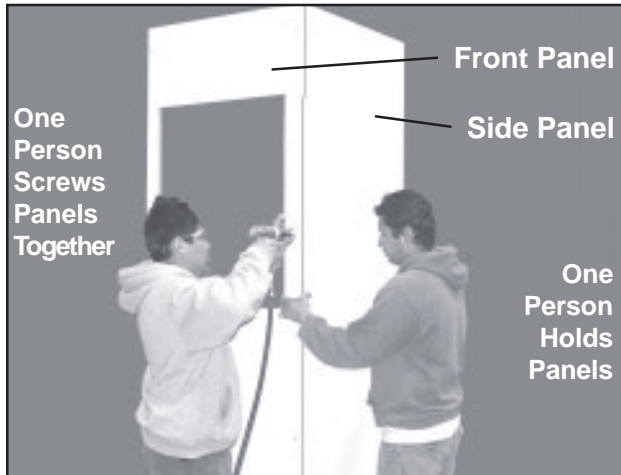

Figure 4. Connecting the Front Panel to a Side Panel
4. Stand one of the side panels up on its bottom edge (Figure 4).
5. While one person holds the side panel upright, a second person attaches the front panel to the side panel with four screws (Figures 4 & 5).